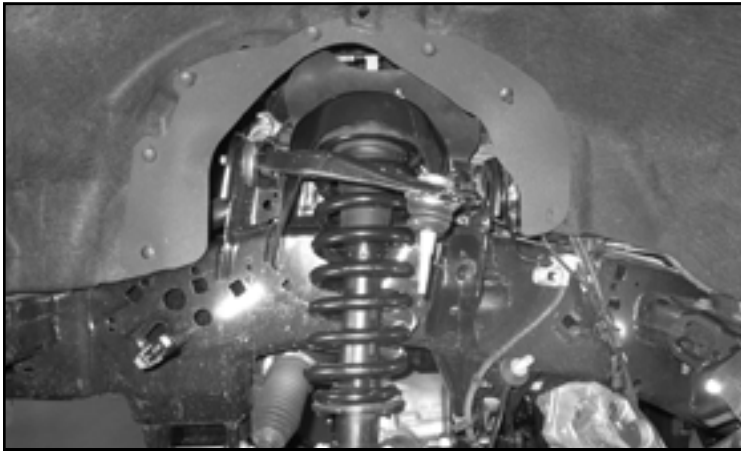

FIGURE 49 - STEP 41
41. Install the strut assembly into the upper tower using the factory hardware. Torque to 53 ft-lbs. **SEE FIGURE 49**